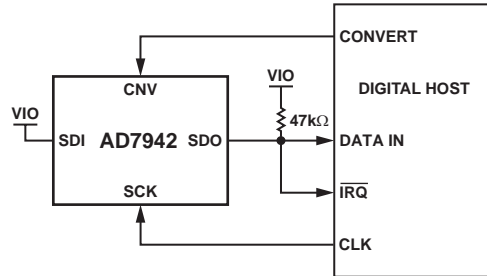
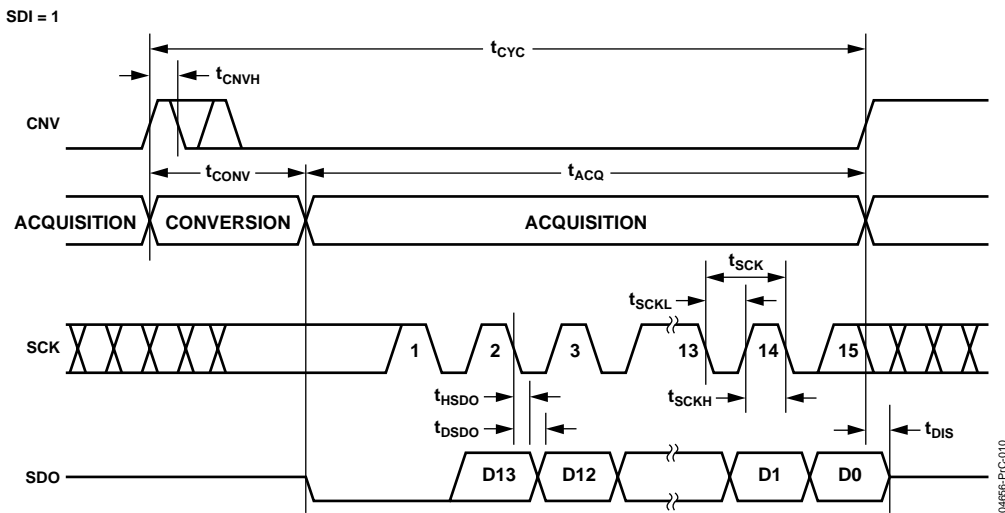
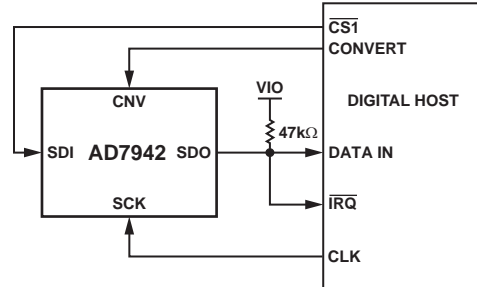
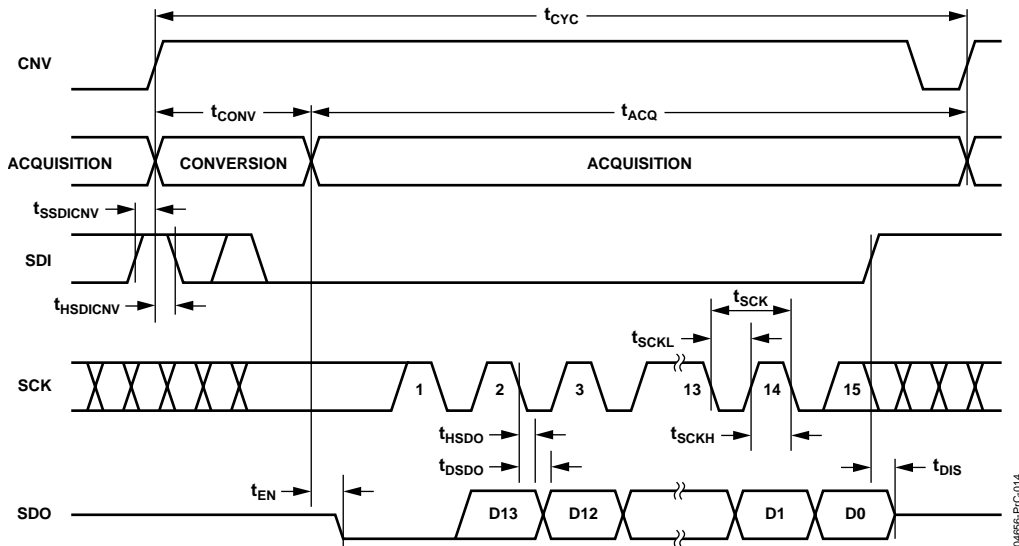

Figure 31. \overline{CS} Mode 3-Wire with BUSY Indicator Connection Diagram (SDI High)
Figure 32. \overline{CS} Mode 3-Wire with BUSY Indicator Serial Interface Timing (SDI High)
Figure 35. \overline{CS} Mode 4-Wire with BUSY Indicator Connection Diagram
Figure 36. \overline{CS} Mode 4-Wire with BUSY Indicator Serial Interface Timing
- In the $\overline{\text{CS}}$ mode, if CNV or SDI is low when the ADC conversion ends (Figure 32 and Figure 36).
The connection diagram is shown in Figure 31 and the corresponding timing is given in Figure 32.
The connection diagram is shown in Figure 35 and the corresponding timing is given in Figure 36.